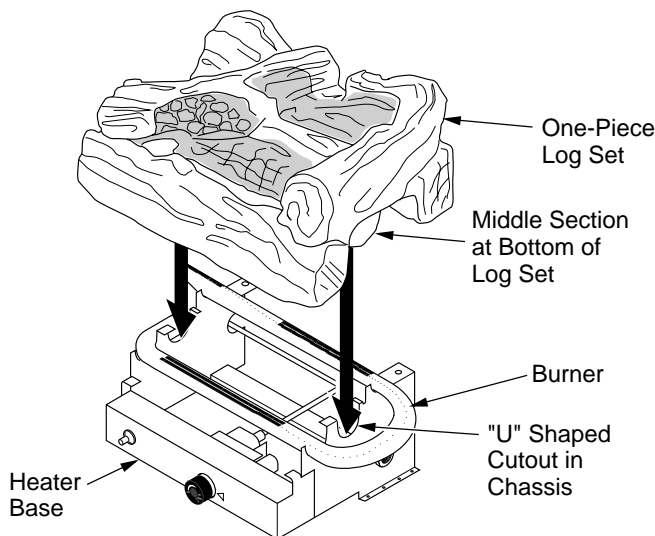

Figure 14 - Installing One-Piece Stove Log Set
1. Set one-piece log on heater base as shown in Figure 12. Make sure middle section at bottom of log is seated into "U" shaped cutout in center of heater base. **IMPORTANT:** Make sure log does not cover any burner ports and does not touch the stove cavity (see Figure 14).
2. Fasten back panel to stove with four (4) bolts and washers removed in step 4 of *Unpacking*, page 6. Make sure product identification label is located on the outside lower left-hand corner.